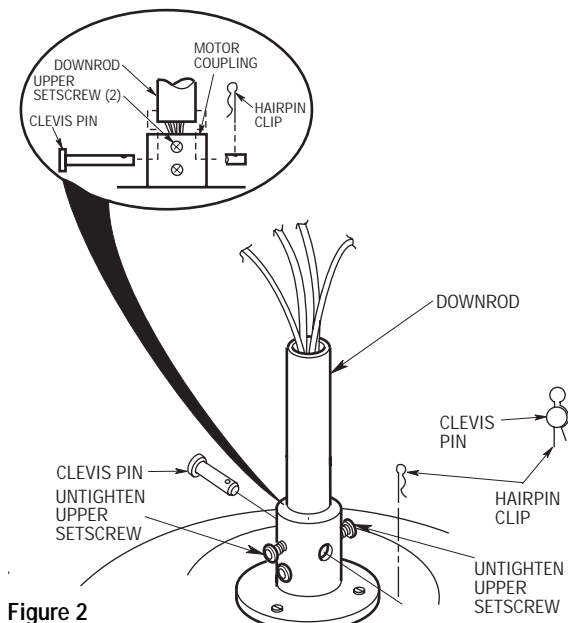

Figure 2
- 2. Unscrew the two upper setscrews (Figure 2) until they clear the inside of the motor coupling. Then separate, untwist and unkink the three 80" motor leads. Route the motor lead wires through the downrod. Align the clevis pin holes in the downrod with the holes in the motor coupling. Install the clevis pin and secure with the hairpin clip (Figure 2). The clevis pin must go through the holes in the motor coupling and the holes in the downrod. Be sure to push the straight leg of the hairpin clip through the hole near the end of the clevis pin until the curved portion of the hairpin clip snaps around the clevis pin. The hairpin clip must be properly installed to prevent the clevis pin from working loose. Pull on the downrod to make sure the clevis pin is properly installed.
It is critical that the clevis pin in the motor coupling is properly installed and the setscrews are securely tightened. Failure to verify that the pin and setscrews are properly installed (as shown in Figures 2 & 3) could result in the fan falling.
- 3. Tighten the two upper setscrews (Figure 2) securely while pulling up on the downrod.